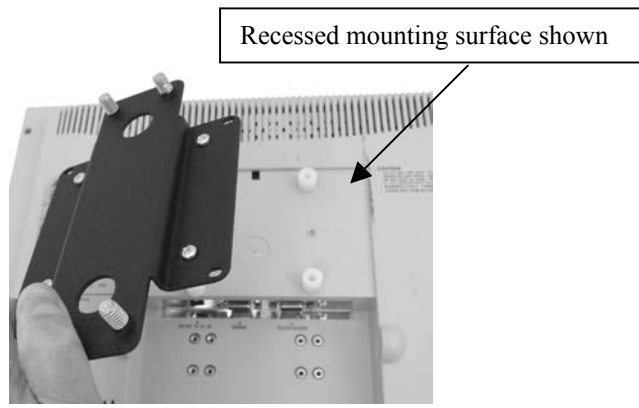

Figure 3
3. For displays with a recesses mounting surface, place adapter bracket over four spacers and secure using four M4 X 20 PHCS screws (see Figure 3).